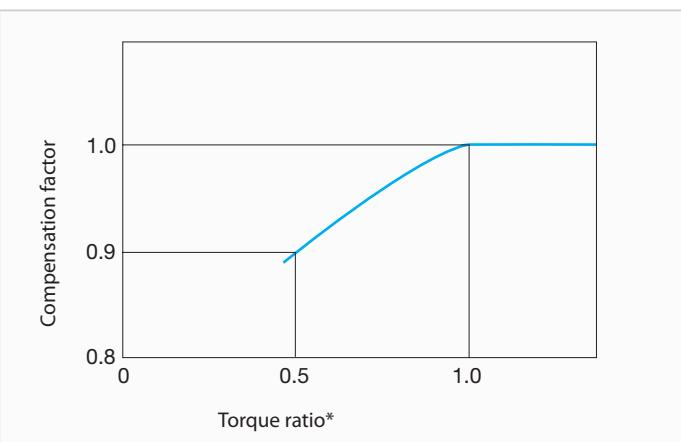

Fig. D3 Compensation curve for efficiency
1. The efficiency changes if the load torque does not match the nominal torque. Check the compensation factor in the diagram Fig. D3.
2. When the torque ratio is over 1.0, the compensation factor for efficiency is 1.0 (diagram Fig. D3).